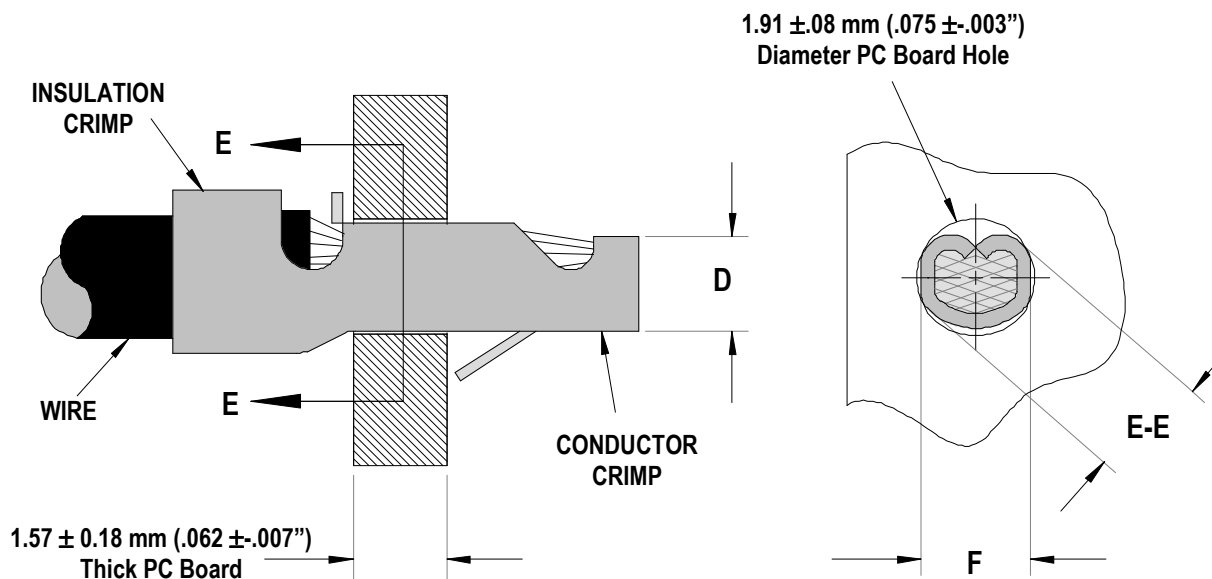

Figure 1
After crimping, the conductor profiles should measure the following (See Figure 1).
| Terminal Series No.             | Wire Size |                 | Dimensions (Figure 1) |      |              |           |          |      | Pull Force Min. |     |
- 1 The Conductor crimp (D dimension in Figure 1) should be set at the maximum height to contain all wire strands, meet minimum pull, and fit into the PCB Hole. The insulation and barrel crimps are adjustable, by the cams (rings) on top of the Mini-Mac ram. The conductor crimp height is not adjustable. Shimming may be required of the conductor punch to optimize this for different wire types.